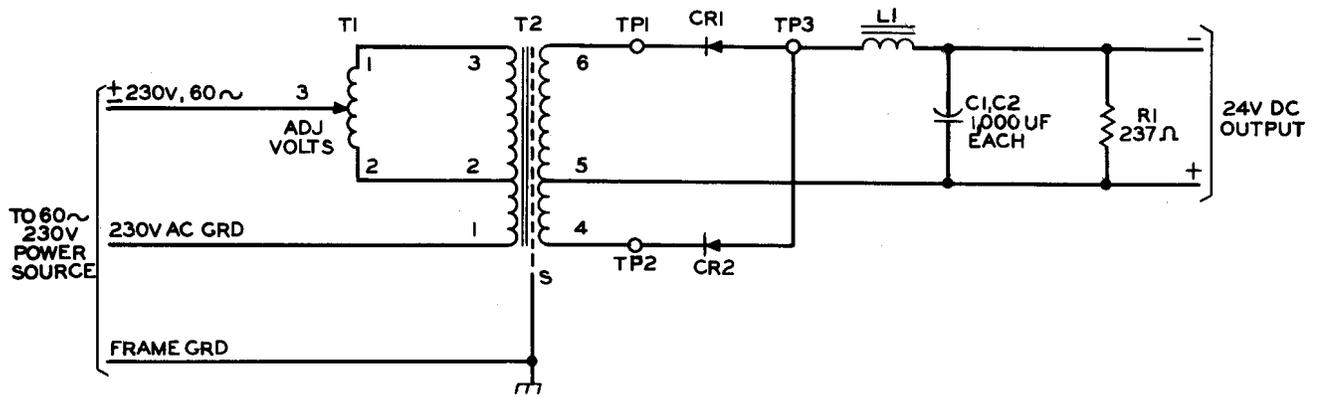

Fig. 1 - Functional Schematic
**How the Rectifier Works (See Fig. 1)**